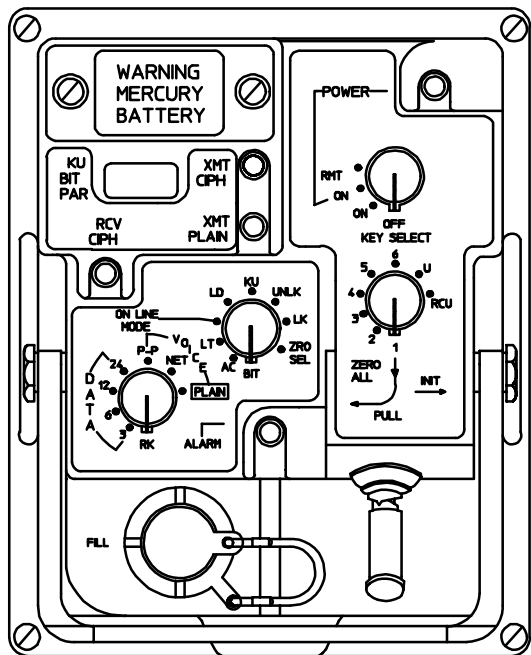

Figure 1B-12
The Comsec Module (CM) provides encryption, decryption, and plain text functions. (See figure 1B-12.)